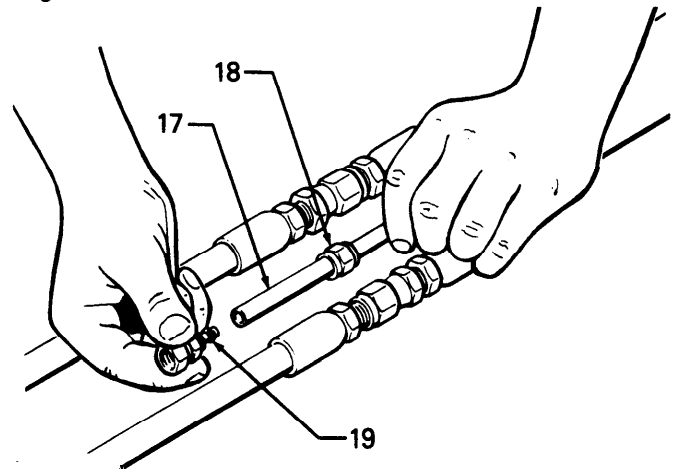

Fig 3
- c. Cut the uncoupled air hose (17) to a length that will be easy to couple to the next air hose.
- d. Attach a coupling to the air hose (17). See Fig 3.
- (1) Slide the male end of the sleeve (18) over the hose.
- (2) Grease the barbed end of the stud (19) and push it into the hose until it seats properly.
- (3) Tighten the sleeve until it bottoms on the fitting.